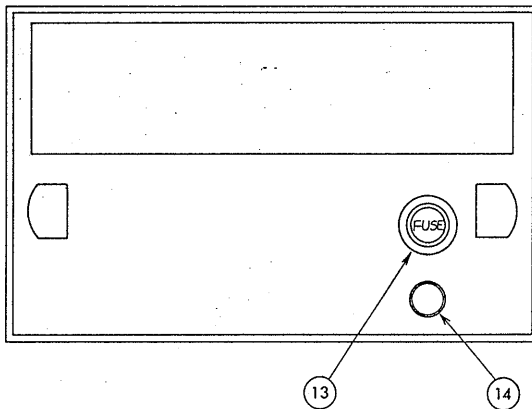

Figure 3-2
- ⑦ DC OFFSET: For superposing a DC component on the oscillated AC component. The DC component is provided when this switch is pulled out and it is continuously variable adjustable up to the maximum peak value of the output voltage. If the sum of DC component and AC component exceeds ± 10 V, the signal is saturated. Operate within ± 10 V.
- ⑧ FUNCTION: Selects the output signal waveform for sine (\sim), triangular (∇), or square (\square).
- ⑨ ATTEN: Attenuator for stepwise attenuation (0, -20, -40, -50, -60 dB) of output voltage. The inner knob is for continuously variable adjustment between ranges.
- ⑩ OUTPUT TERMINAL: Provides the output signal of 0 - 20 V_{p-p}, with output resistance 50 Ω . BNC terminal with the ground line isolated from the casing.
- ⑪ TTL OUTPUT: Provides TTL level output signal synchronized with the oscillating frequency. The output resistance is 50 ohms.
- ⑫ VCG INPUT TERMINAL: Input terminal for VCG mode, to control the oscillating frequency with an input voltage of 10 mV - 10 V.
3.2 Explanation of Rear Panel (See Figure 3-2.)
- ⑬ FUSE: Fuse in the AC power line. 0.5 A
- ⑭ POWER CORD: To be connected to an AC power line outlet of 100 V, 50/60 Hz.